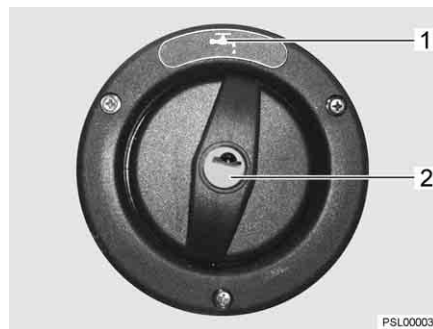

Fig. 51 Cap for the drinking water filler neck
- ▷ The drinking water filler neck is indicated by the symbol "☕" (Fig. 51,1).
- Insert the key in the locking cylinder (Fig. 51,2) and turn it in an anticlockwise direction.